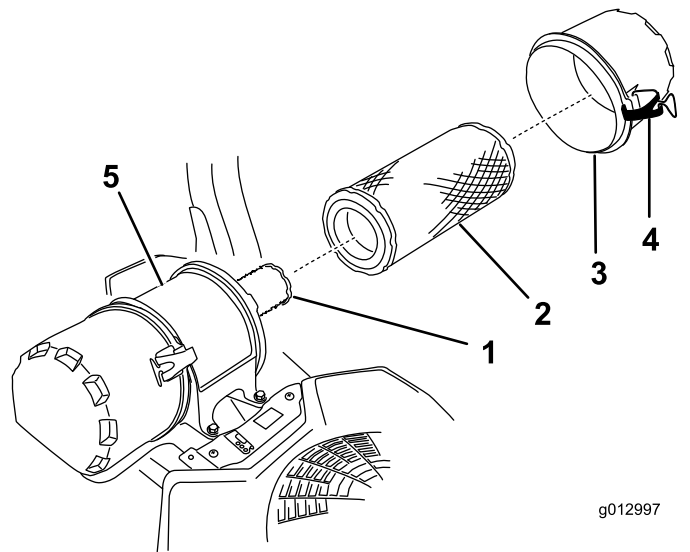

Figure 62
6. Release the latches on the air cleaner and pull the air-cleaner cover off the air-cleaner body (Figure 62).
8. Gently slide the primary filter out of the air-cleaner body (Figure 62).
2. If you are replacing the inner filter, carefully slide it into the filter body (Figure 62).
3. Carefully slide the primary filter over the safety filter (Figure 62).
4. Install the air-cleaner cover and secure the latches (Figure 62).